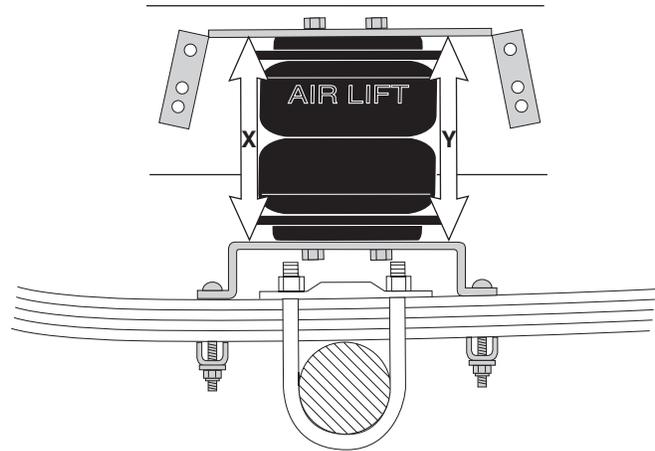

Fig. 8
7. Check the upper to lower bracket measurement to ensure that it is still between 4.5" to 6.5" (114mm to 165mm) on the side of the center punched hole (in Fig. 8, measurement X must equal measurements Y, as well as between 4.5" to 6.5" [114mm to 165mm]).
8. Drill one 3/8" hole in the previously marked location and loosely install a frame bolt (I), an oversized flat washer (J), and a nylon lock nut (K).
9. Measure the upper to lower bracket clearance on the other side of the upper bracket. This measurement should be equal to the measurement of the other side of the upper bracket (in Fig. 8, measurements X must equal measurement Y, as well as be between 4.5" to 6.5" [114mm to 165mm]).